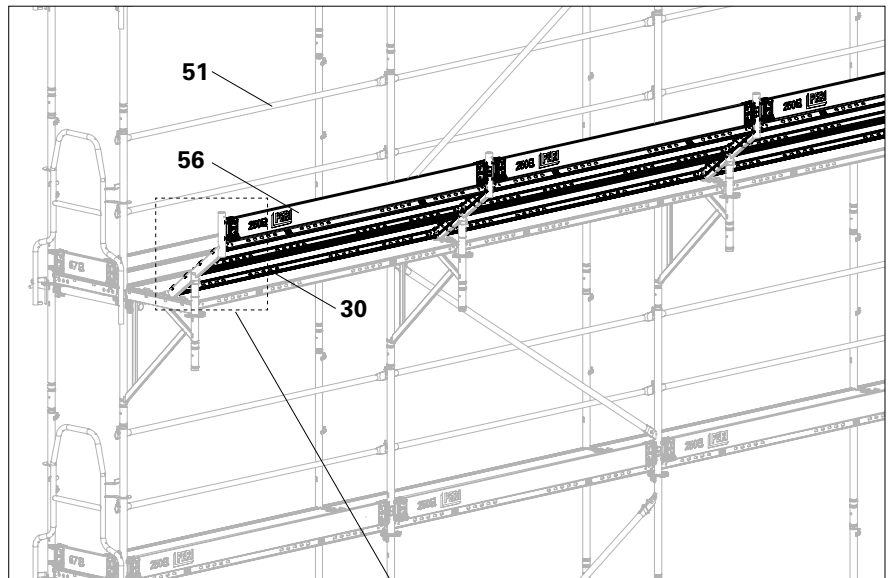

Fig. D4.03
- The protection roof is now installed. (Fig. D4.03)